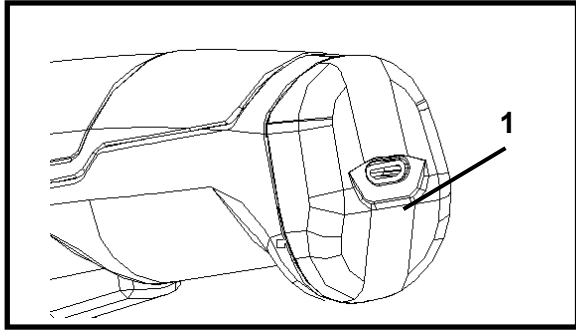

Fig.2
5.1 Charging the battery pack (Fig. 2)
- Connect the charger to the charging station (Fig. 2).
- Check that your mains voltage is the same as that marked on the rating plate of the battery charger. Plug the battery charger in a socket-outlet. The red LED (Fig. 2 / Item 1) comes on to indicate that charging voltage is available.
- As soon as battery pack is fully charged, the red LED (Fig. 2/Item 1) extinguishes